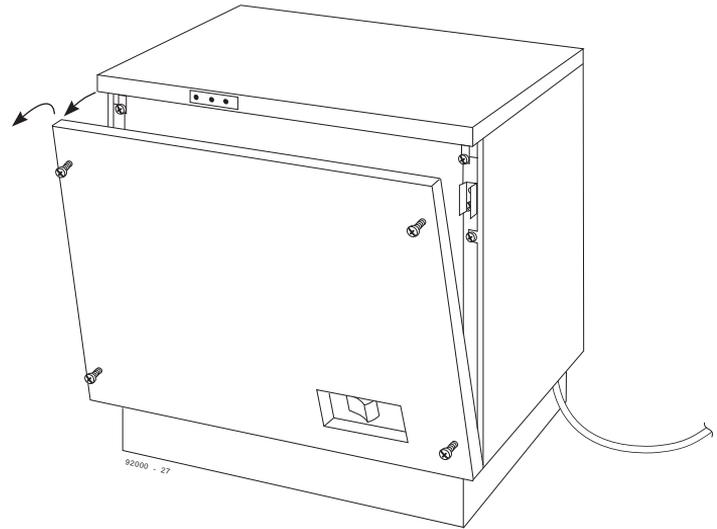

Figure 1-1 REMOVING THE FRONT COVER
Removing the Front Cover (Figure 1-1)
4. Remove the top, front, and back covers from the Main Cabinet. Refer back to Figures 1-1, 1-2, 1-3, and 1-4 if necessary.